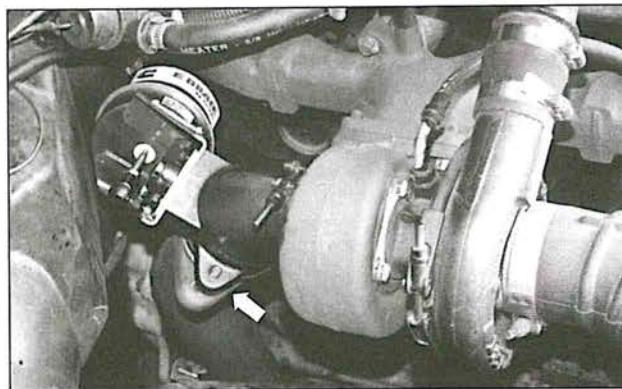

Fig. 4
- b. Attach the brake housing to the turbocharger, using the "V" clamp supplied in the kit (Fig. 4). As you line up the two components, be careful not to knock the gasket out of place. Before you tighten the "V" clamp, rotate the brake housing so that the two holes in the mounting flange are horizontal as shown (arrow, Fig. 4).
- b. Attach the brake housing to the turbocharger, using the "V" clamp supplied in the kit (Fig. 4). As you line up the two components, be careful not to knock the gasket out of place. Before you tighten the "V" clamp, rotate the brake housing so that the two holes in the mounting flange are horizontal as shown (arrow, Fig 4.).